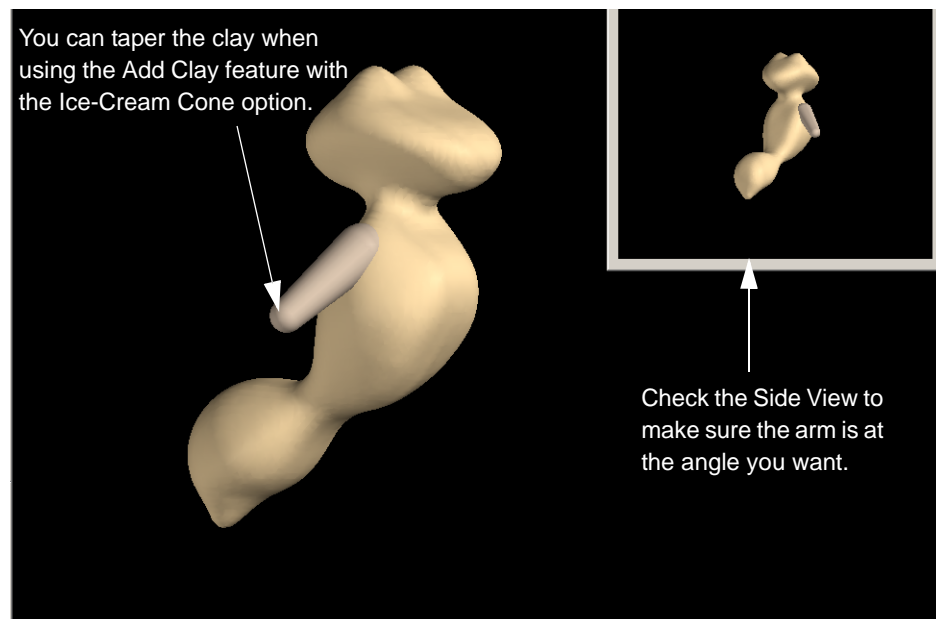

FIGURE 1-19. Creating the upper arm with Add Clay.
- 3 The first step is to sculpt the bug's upper arm starting at the shoulder, so change the diameter of the sphere of clay to a size that would be appropriate for the bug's shoulder. See Figure 1-19 for a guide.